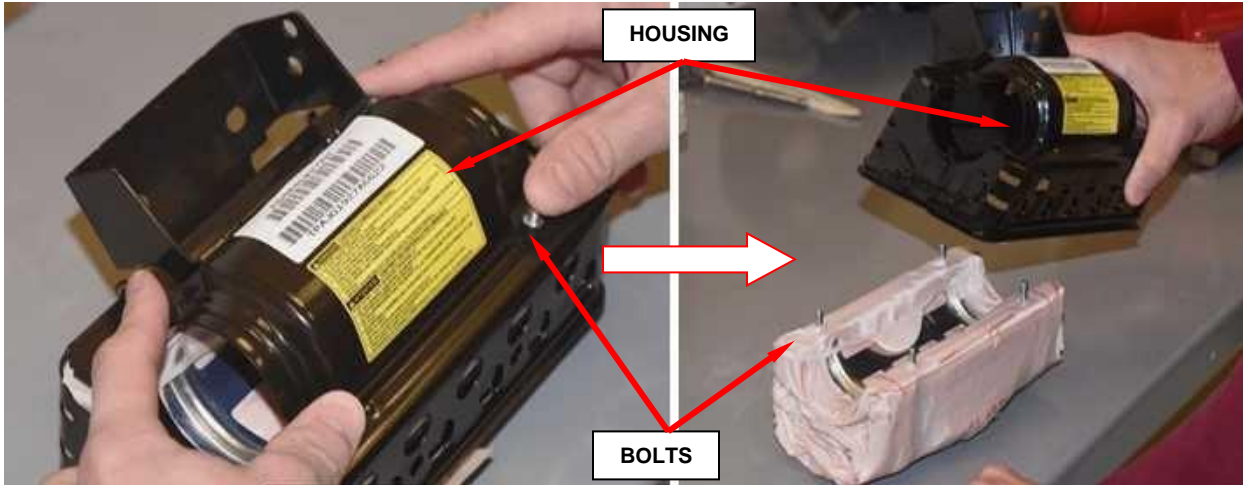

Figure 28 - Remove Airbag Cushion from Housing
- g. Remove airbag cushion from housing by applying pressure to the bolts, set cushion aside (Figure 28).